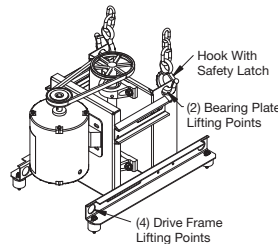

Figure 3 — Lifting Lugs on Drive Frame
4. Use lifting lugs on the drive frame to lift and place the unit on top of curb. Refer to Figure 3.